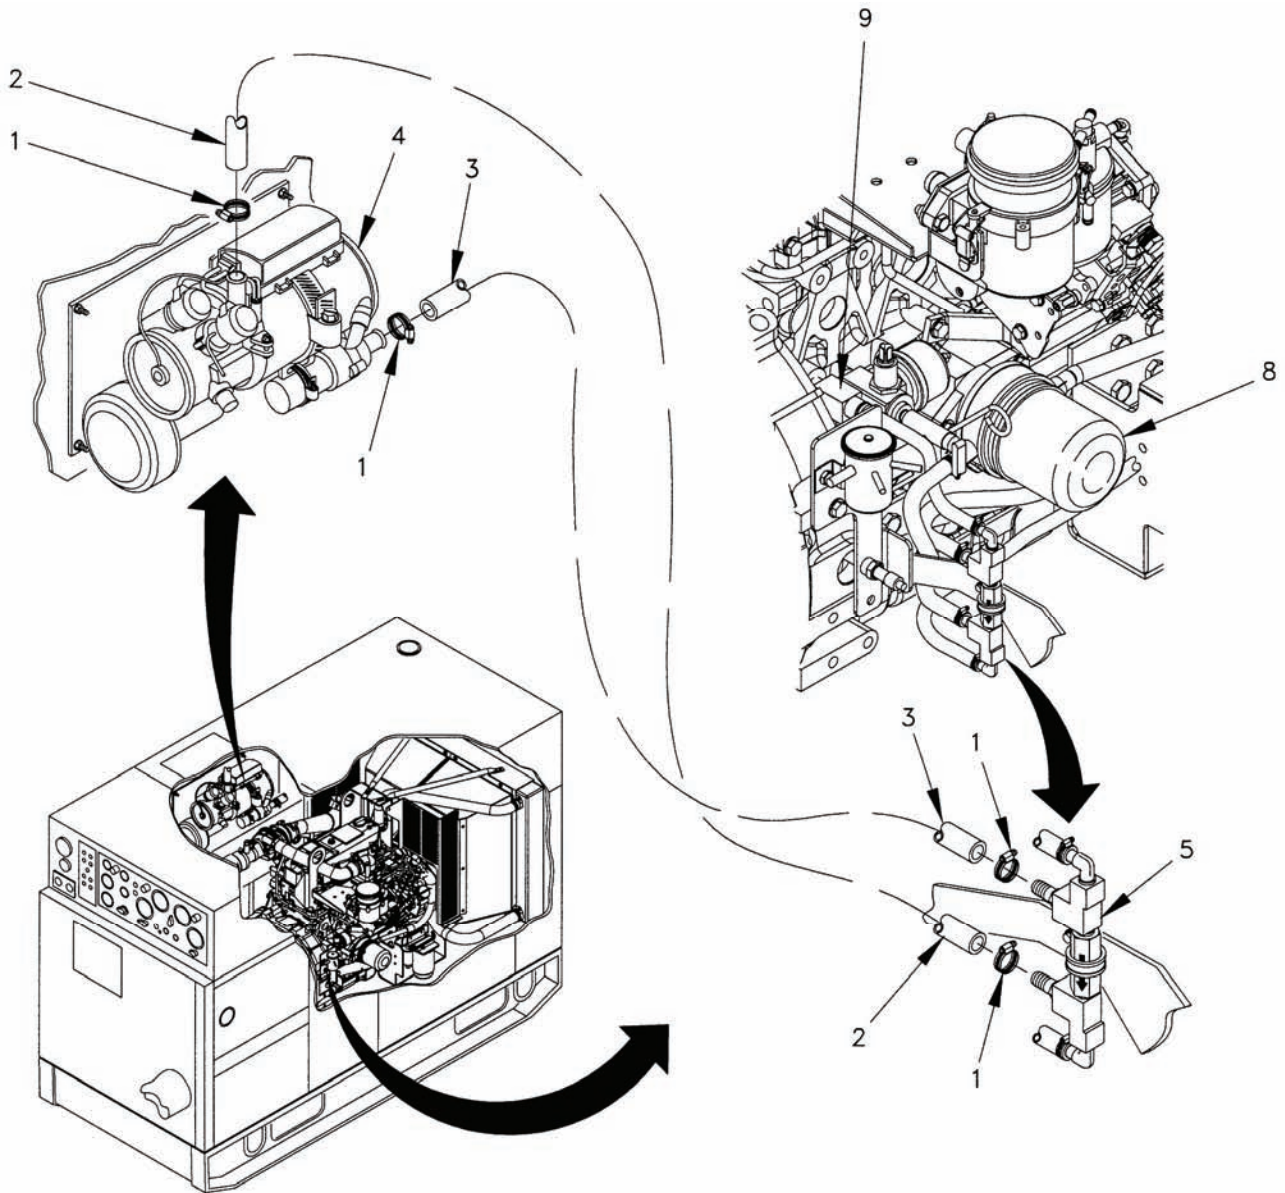

Figure 6-20. Coolant Hose Maintenance (MEP-804B/MEP-814B).
- c. Loosen screw clamps (1, Figure 6-20) (MEP-804B/MEP-814B) to disconnect hoses (2 and 3) from the heater (4) and top and bottom hoses of the bypass valve (5) from the oil cooler (9) and from engine block (8).